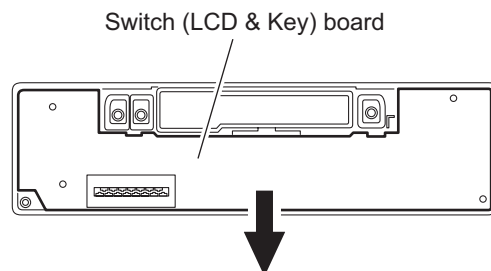

Fig.13
- (3) Remove the switch board from the rear cover. (See Fig.13)